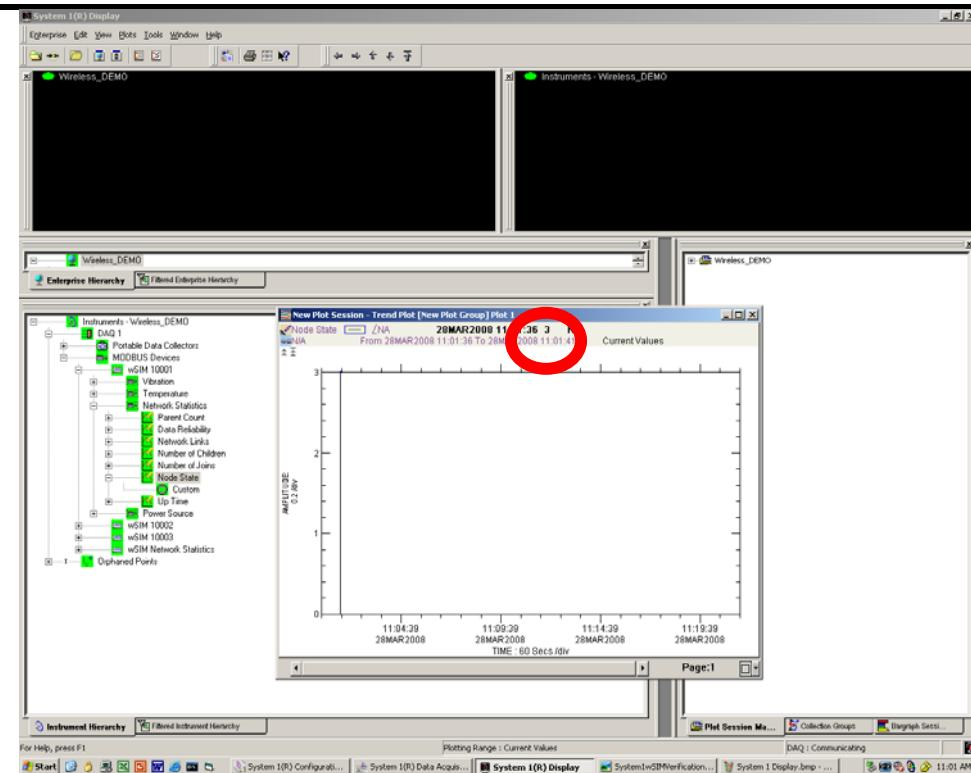

Figure 4-8: wSIM verification in System 1® Display
10. A graph of the data reported is displayed. The current value should be 3, see Figure 4-8.